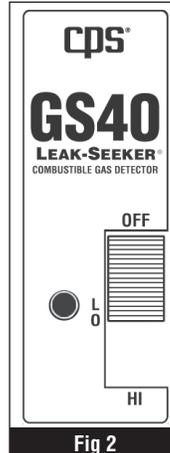

Fig 2
2. Turn the instrument ON by sliding the front panel switch to either the LO position as shown in Fig 2. This sets the instrument to its low sensitivity setting.